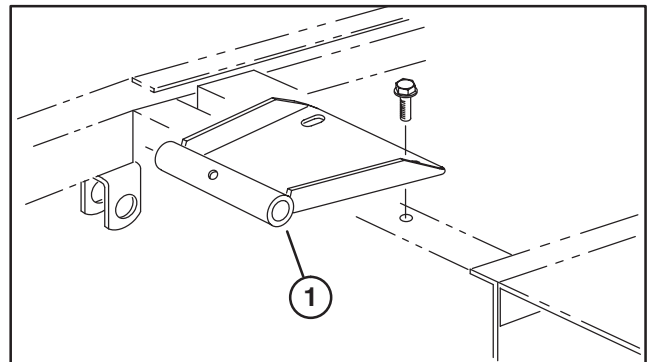

Figure 5
6. Mount seat pivot bracket to frame with (2) flange screws supplied in kit (Fig. 5).
8. Mount seat pivot bracket to frame with (2) flange screws supplied in kit (Fig. 5)